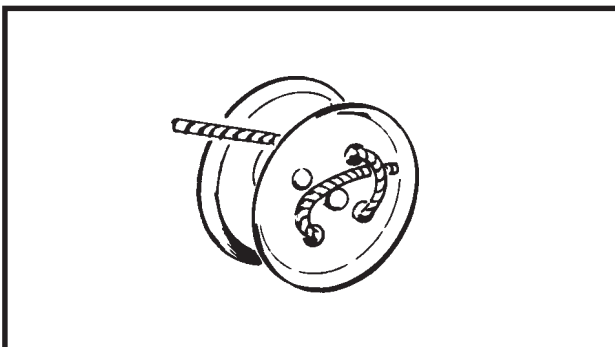

Figure No. 27
2. Thread cable through hopper lift arm assembly as shown and attach to winch (see **Figure No. 27**).